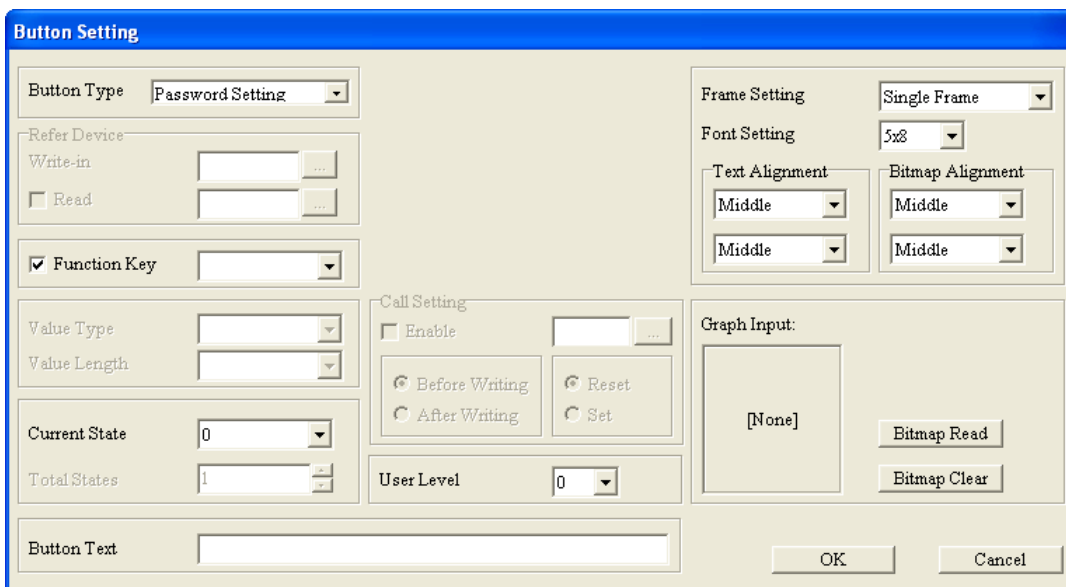

Figure 4-75 Button Setting window
- If **Password and Setting** is selected, the **Button Setting** window will be as shown in Figure 4-75.